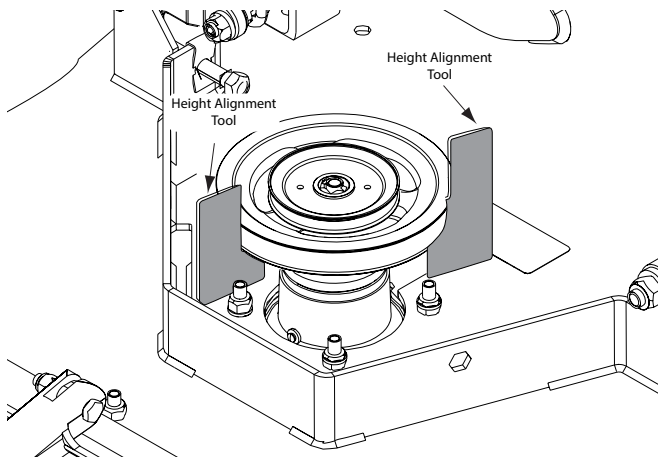

Figure 2-3. Height Alignment Tools
6. Make sure to mount the pulley 2.5" from the top of the deck support plate to the center of the groove of the bottom pulley (use the height alignment tools, included with this kit, for increased accuracy, p/n 429967, See Figure 2-3).
- Remove the turbo baffle from the cutter deck. Using 5/16-18 x 1" bolts (p/n 04001-09), 5/16 flatwasher (p/n 04040-15), and 5/16 elastic stop nuts (p/n 04021-10) install the catcher turbo baffle. See Figure 2-3. (baffles have p/n's on them)
- Install the grass catcher baffle weldment and secure using 3/8-16 x 1" carriage bolts (p/n 04003-23) and 3/8-16 elastic stop nuts (p/n 04021-09). See Figure 2-3.